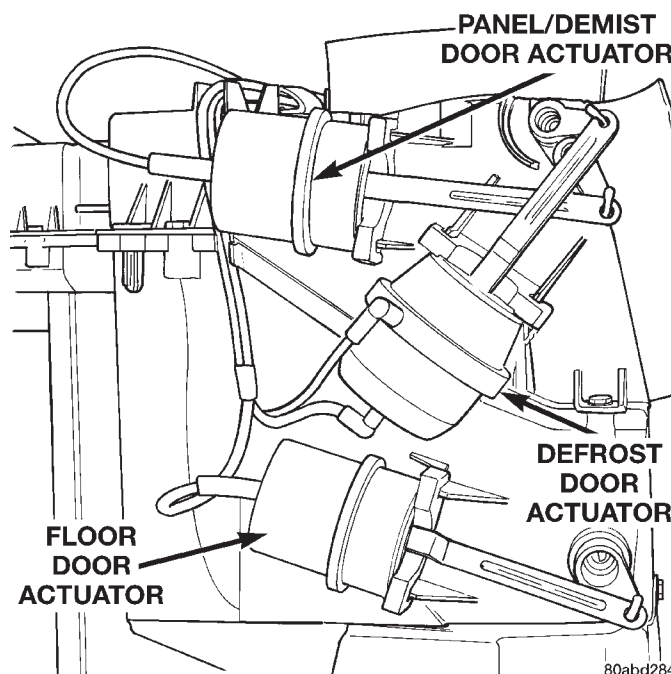

Fig. 44 Defrost, Floor, and Panel/Demist Door Vacuum Actuators
- (1) Disconnect and isolate the battery negative cable.
- (2) Remove the knee blocker from the instrument panel. Refer to Knee Blocker in Group 8E - Instrument Panel Systems for the procedures.
- (3) Unplug the two vacuum harness connectors from the defrost door actuator (Fig. 44).
- (3) Unplug the vacuum harness connector from the floor door actuator (Fig. 44).
- (1) Remove the defrost door actuator from the heater-A/C housing. See Defrost Door Actuator in this group for the procedures.
- (2) Unplug the vacuum harness connector from the panel demist/door actuator (Fig. 44).